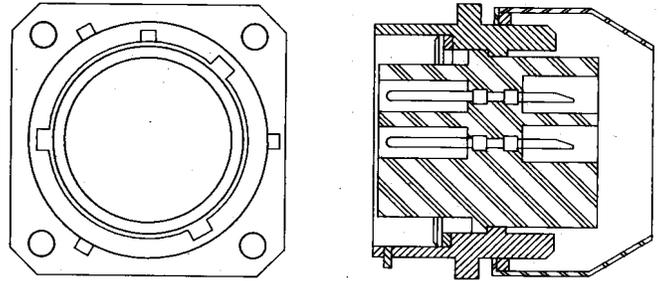

Fig. 8—KS-20461-Type Connector
**2.04 KS-20461, L1 Through L4:** The KS-20461, L1 through L4 (Fig. 8) are high voltage, environmental, power connectors, consisting of a cylindrical insert of insulating material equipped with three or six male contacts. It has a metal shell for panel mounting and 3 pins for bayonet coupling to a mating plug. These connectors are used with TH-3 Power Systems. L2 and L4 connectors have 6 con-